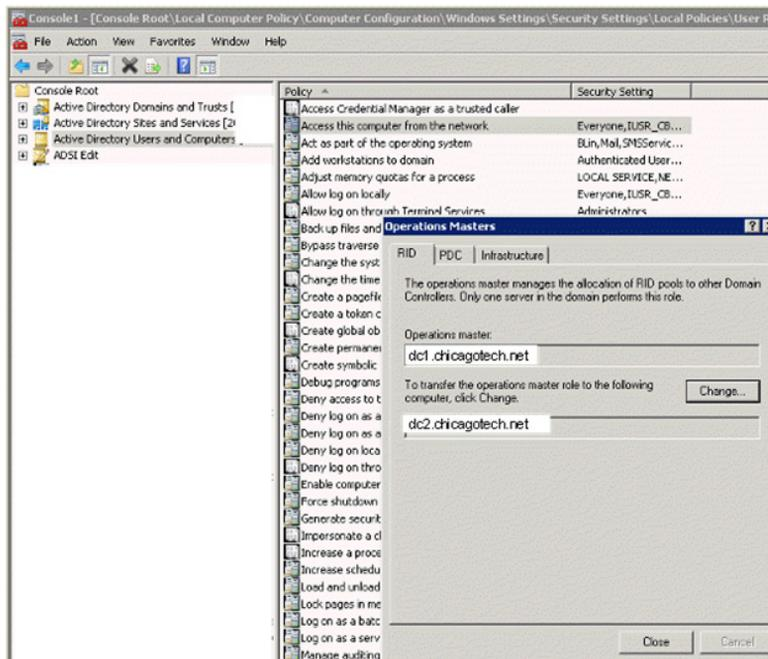

Figure 4. Operations Master Dialog Box
6. Click **Operations Masters** to launch the Operations Masters dialog box (Figure 4).